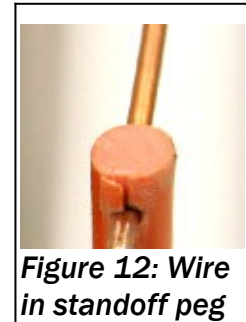

Figure 12: Wire in standoff peg
c) **Wire holes.** Near one end of every peg, drill a hole large enough to freely pass your antenna wire (Figure 12). No. 12 bare wire is about 0.08" in diameter, so a  $\frac{3}{32}$ " (0.094") hole is sufficient. Drilling a hole into the side of a  $\frac{1}{4}$ " fiberglass peg is tricky. Clamp the peg in a vise, then use a center punch or nail to make a dimple. Start with a small drill bit to act as a pilot hole, then drill the final hole. *Wear gloves and a mask to protect against fiberglass dust.*